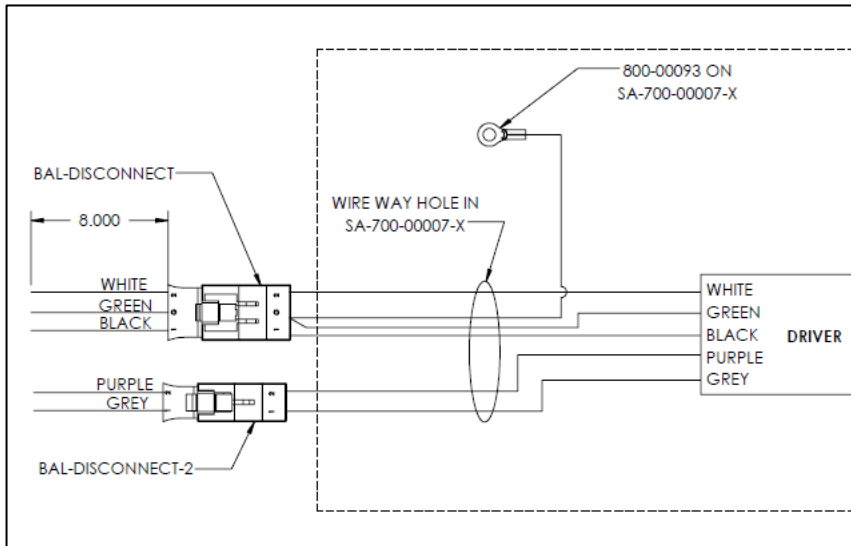

FIG. 6 - WIRE DIAGRAM
3. Raise the fixture and unplug 8" wire whip from fixture harness and connect 8" wire whip to building supply wires. See WIRE DIAGRAM as shown below in FIG. 6. Make all electrical connections in accordance with the national electrical code and applicable local and state code.